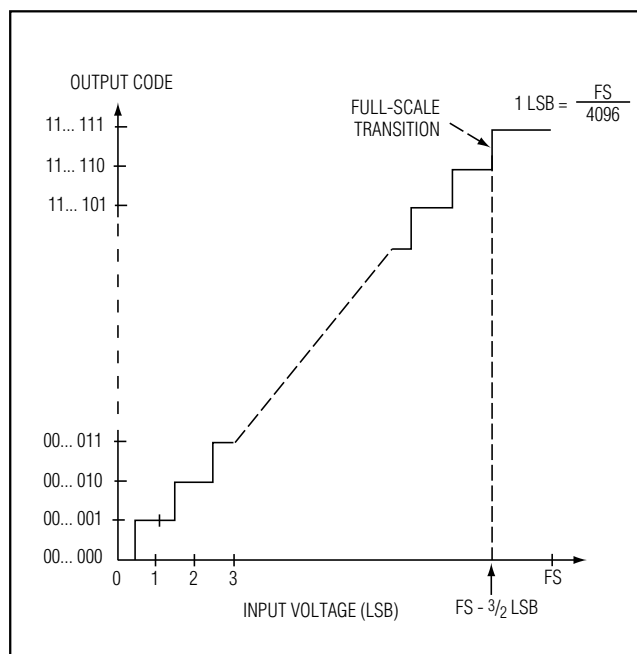

Figure 10. Unipolar Transfer Function
Output data coding for the MAX197 is binary in unipolar mode with $1\text{LSB} = (\text{FS} / 4096)$ and two's-complement binary in bipolar mode with $1\text{LSB} = ((2 \times |\text{FS}|) / 4096)$. Code transitions occur halfway between successive-integer LSB values. Figures 10 and 11 show the input/output (I/O) transfer functions for unipolar and bipolar operations, respectively. For full-scale (FS) values, see Table 1.